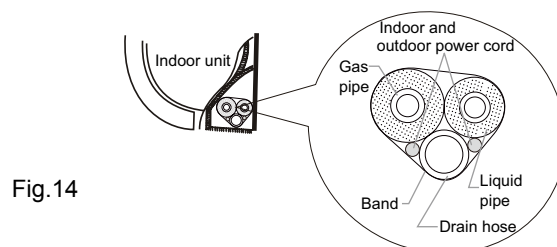

Fig.14
- (1) Bind up the connection pipe, power cord and drain hose with the band.(As show in Fig.14)